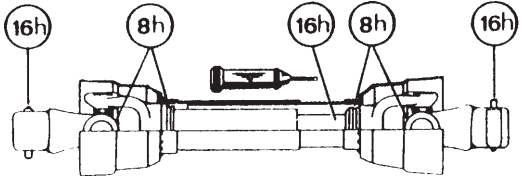

Figure 29
- 8) Check impeller adjustment. The tip of the blades should be approximately 1/8" to 3/16" from the discharge wall of the drum. If necessary, adjust with the take-up screws provided (Fig. 29).